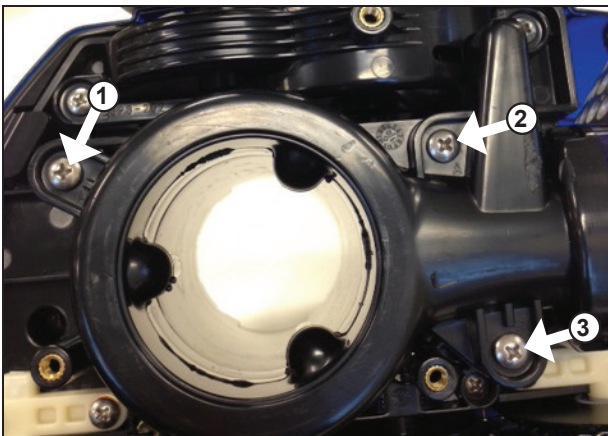

Figure 5. Remove three (3) water management system screws
8. Set cleaner on its double side wheels and remove three (3) screws in location marked “A” water management system assembly (Figure 5).